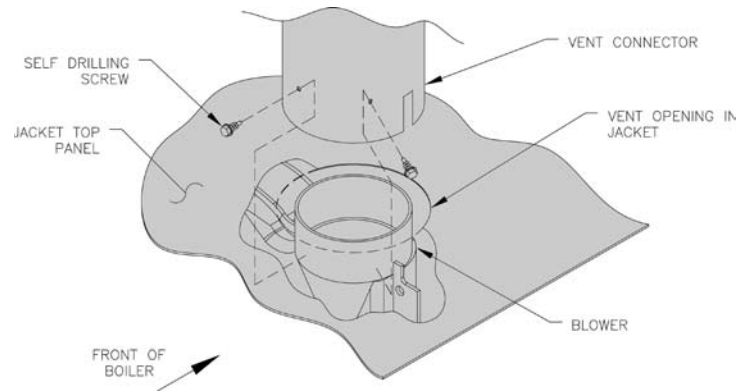

Figure 29: Blower Vent Connector Assembly
14. Connect vent system. See Figure 29.